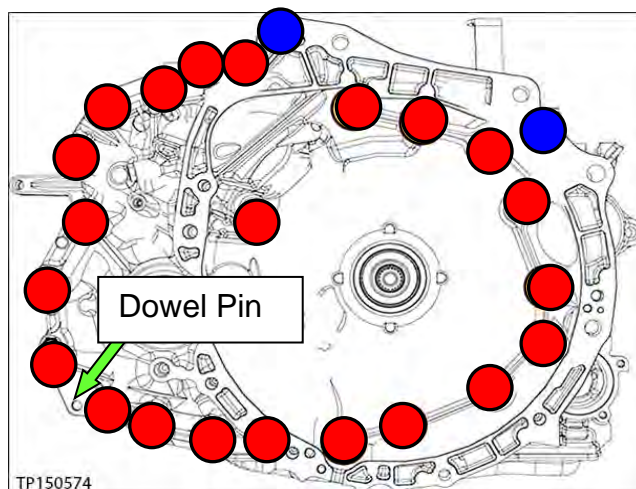

Figure 1B
1. Remove all 24 converter housing mounting bolts (see Figure 1B).